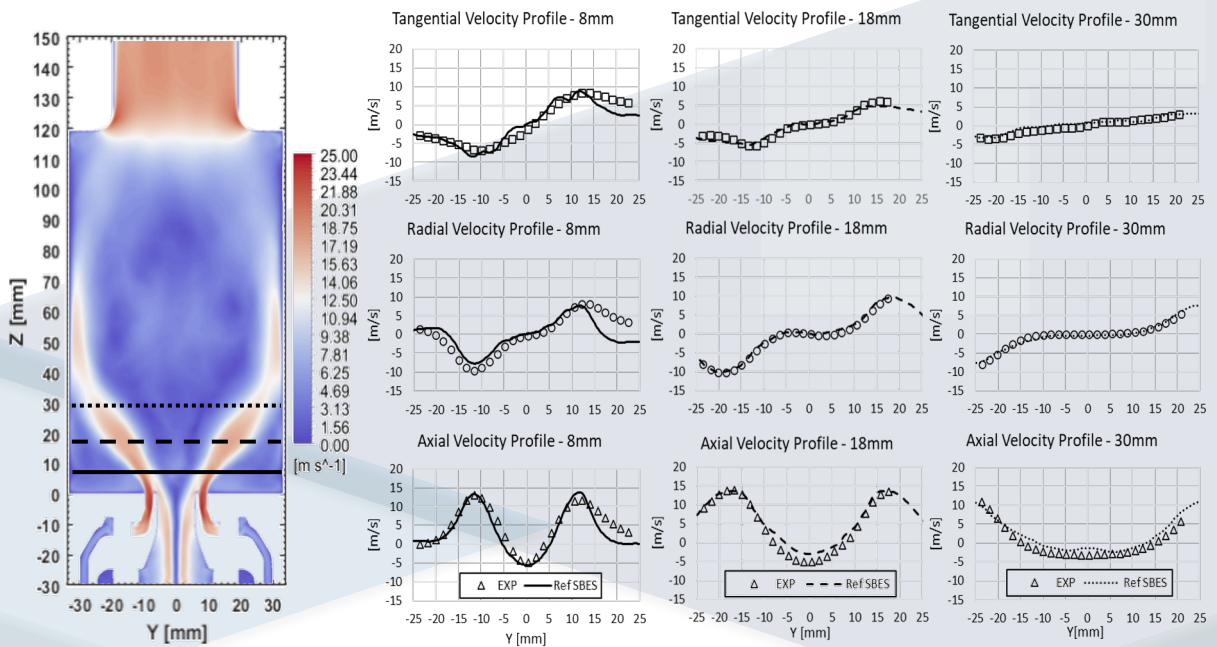

Fig. 2 – ‘FIRST’ combustor velocity profile at different spans (num vs exp).
- Quality of the simulations has been ameliorated when comparing experimental and numerical values (see Fig. 2).